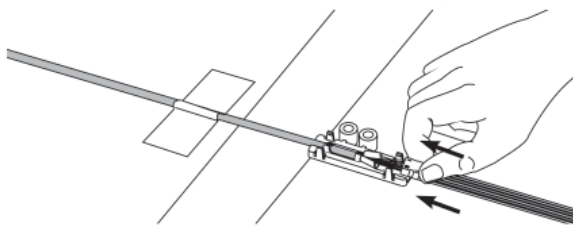

Figure 26
9.7 Untape the 900 μm assembly from the table edge. Carefully slide the assembly while gently pulling the bare fibers protruding from the 900 μm tube ends until the assembly is above the fan-out body (Figure 26).